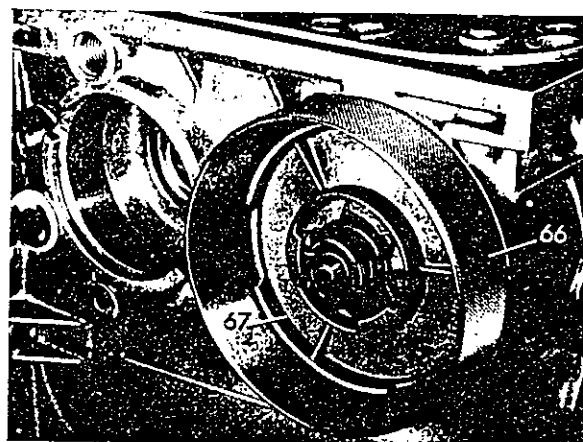

Fig. 49
32 Insert brake band piston B 2 (67) into transmission case by using installing ring (66) **Fig. 49**